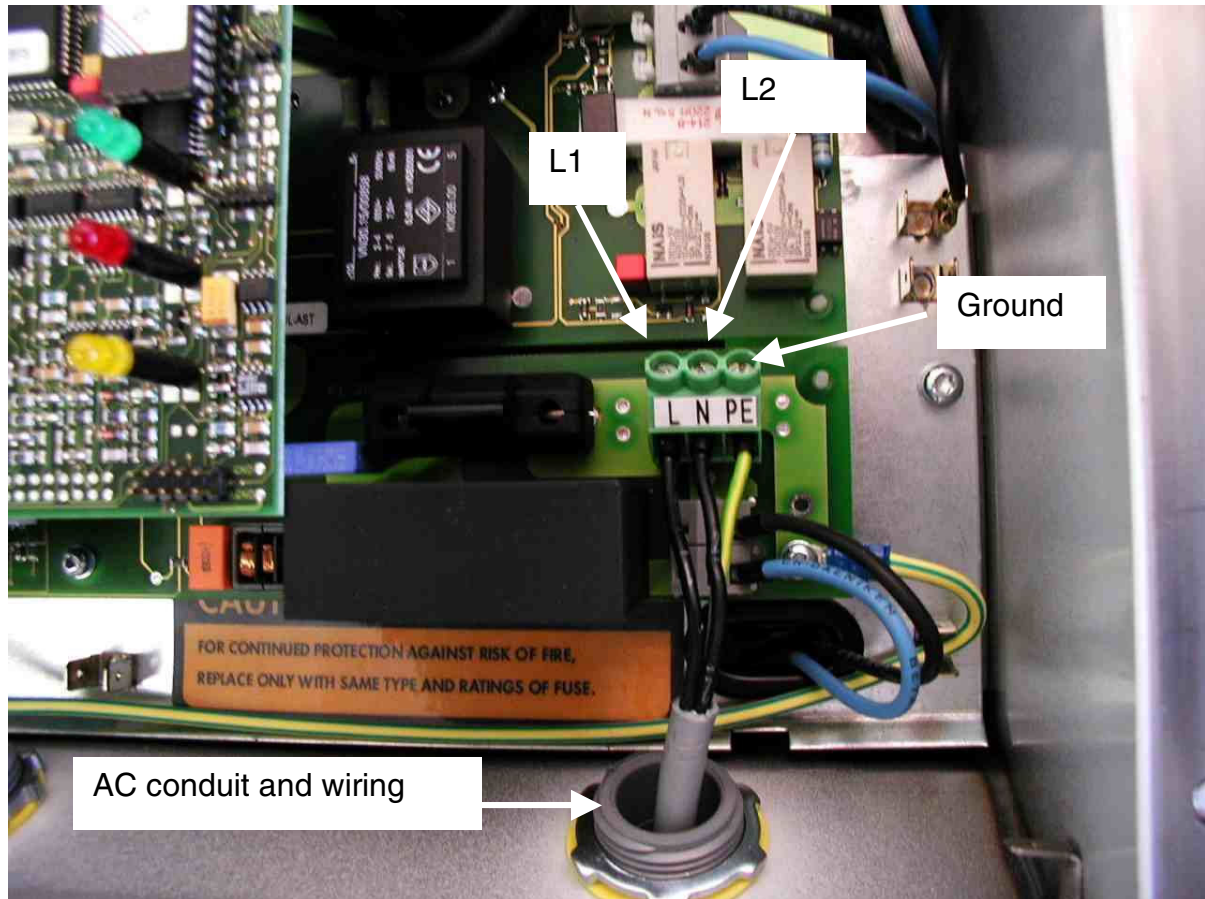

Fig. 2.8: AC connection socket
- Connect the wire L1 to the terminal labeled L in the Sunny Boy (see Fig. 2.8).